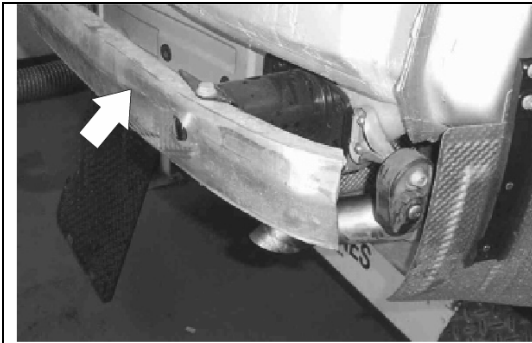

Figure 2 – Remove Bumper support.
2. Undo four bolts on either side to remove Bumper Support and discard it. Refer to Figure 2.